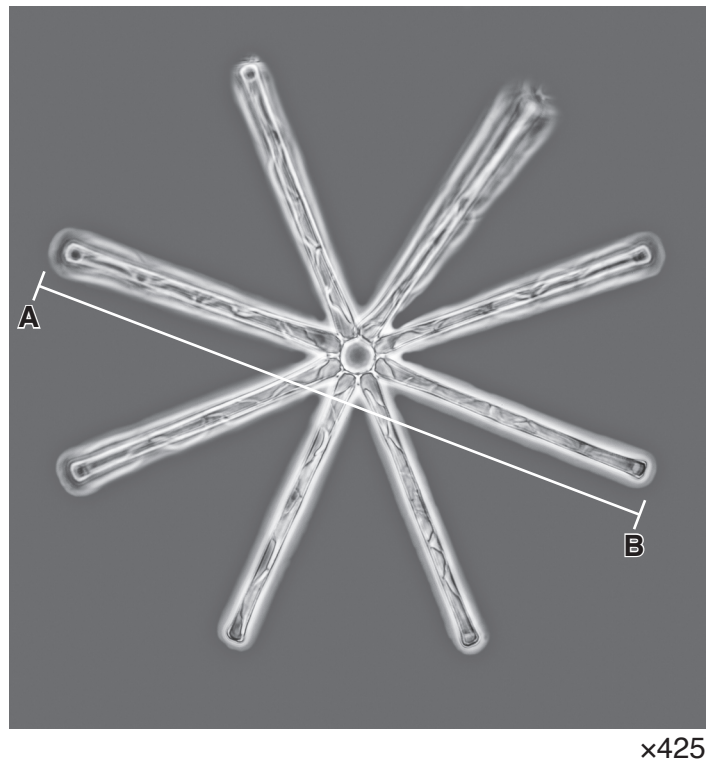

**Fig. 2.1**
- 2 Fig. 2.1 shows *Asterionella*, which are microscopic algae that live in fresh water.
- (ii) Measure the length of the line **AB** in Fig. 2.1. Include the unit.
Use the formula to calculate the actual diameter of the algae shown in Fig. 2.1. Include the units.